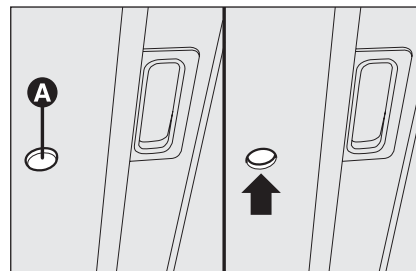

fig. 69
- fit the wrench into **A-fig. 69** and turn it: